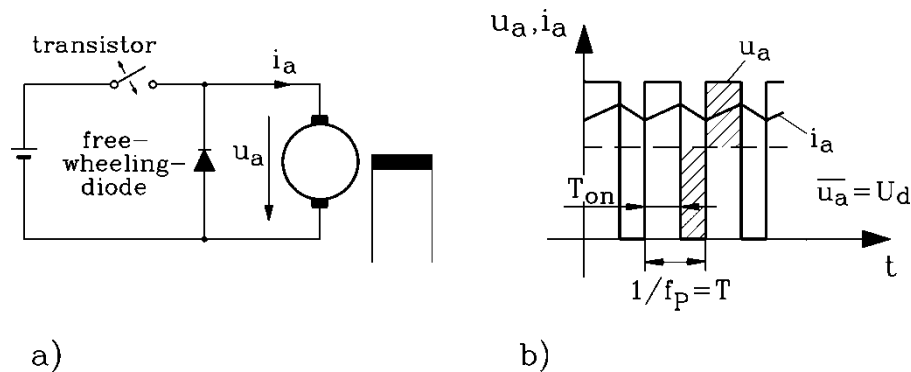

Fig. 5.3-1: 1-quadrant operation of DC-chopper: a) Basic circuit scheme, b) armature voltage pulse pattern
- 4) Due to the switching modulation as depicted in Fig. 5.3-1 b), the armature current $i_a(t) = I_a + \Delta i_a(t)$ comprises an average value $I_a = \bar{i}_a$ and a small ripple of $\Delta i_a(t)$. Calculate this ripple with following approximation for the operating point according to 3)!